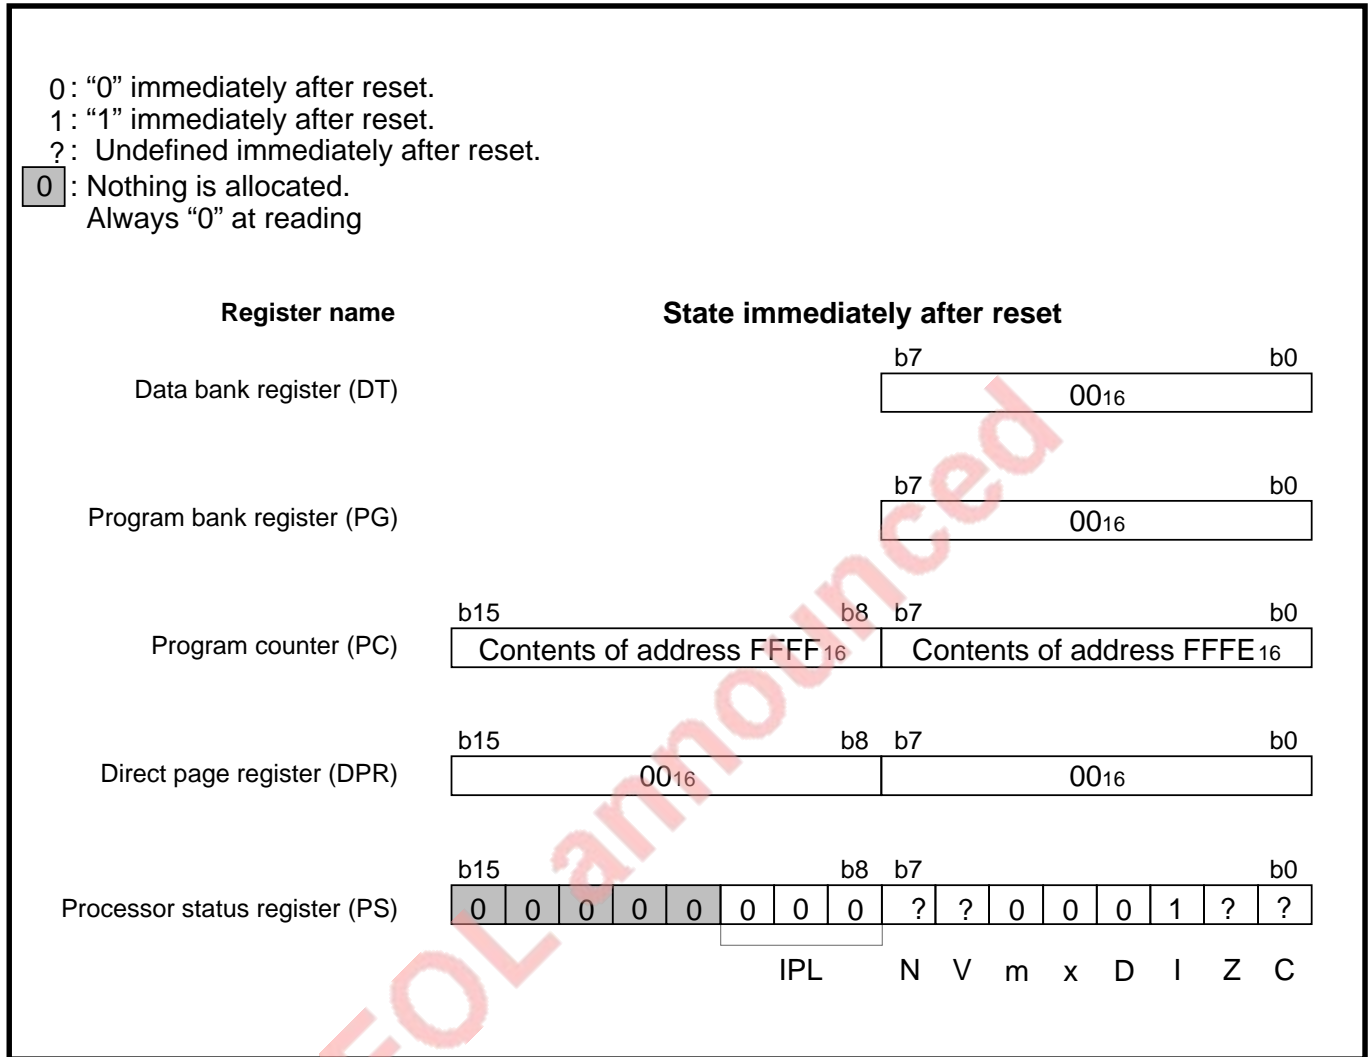

Fig. 13.1.2 State of CPU registers immediately after reset
- ① After “L” level is applied to pin RESET, pins are initialized within a period of several ten ns. (Refer to **Table 13.1.1.**)
- ② While pin RESET is at “L” level or within a period of 4 to 5 cycles of internal clock  $\phi$  after pin RESET's level changes from “L” to “H,” the central processing unit (CPU) and SFR area are initialized. At this time, the contents of the internal RAM area is undefined (except the cases where the stop or wait mode is terminated.). Refer to **Figures 13.1.2 to 13.1.6.**
Figure 13.1.2 shows the state of the CPU registers immediately after reset. Figures 13.1.3 to 13.1.6 show the state of the SFR area and internal RAM area immediately after reset.